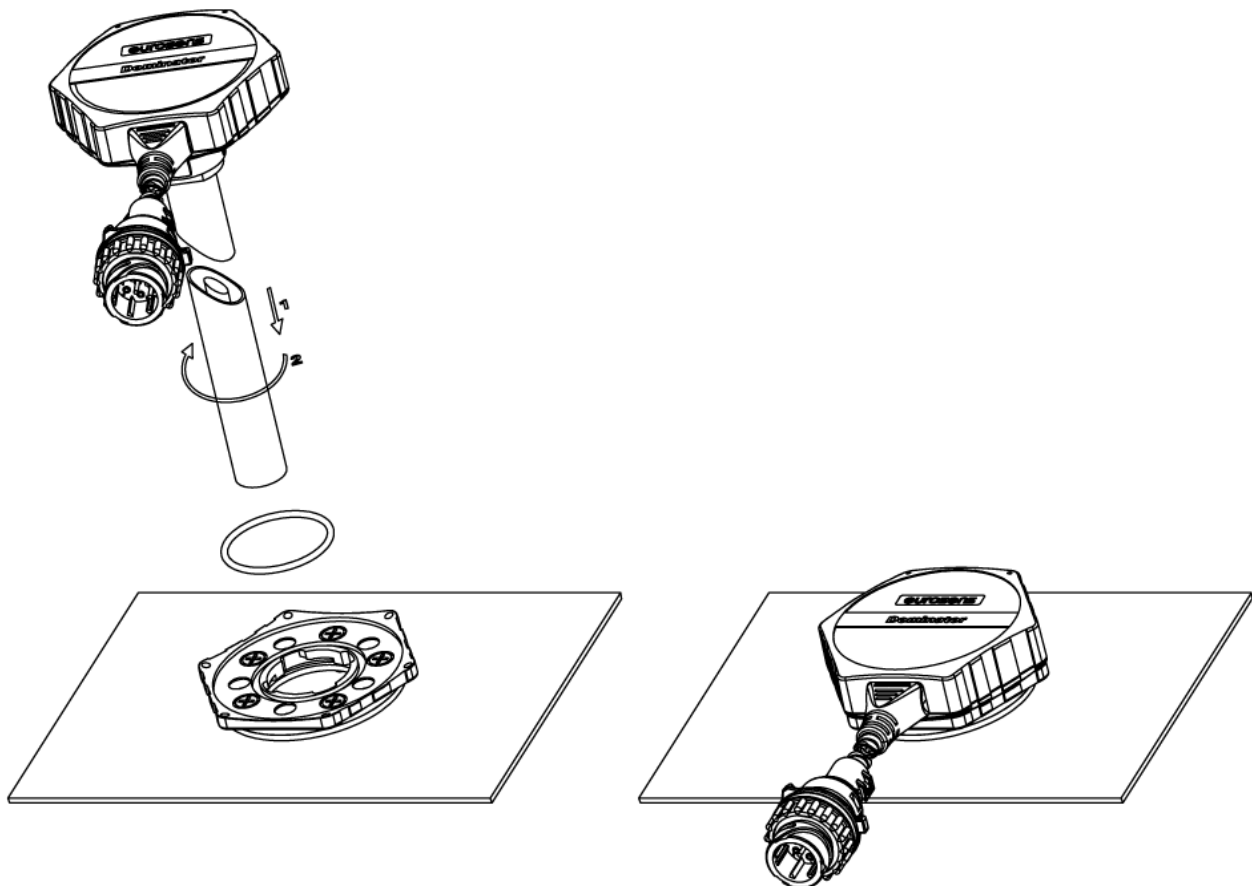

Fig. 1
1. The sensor is mounted to the tank not directly with self-tapping screws into the metal, but through an intermediate bayonet plate (Fig. 1).